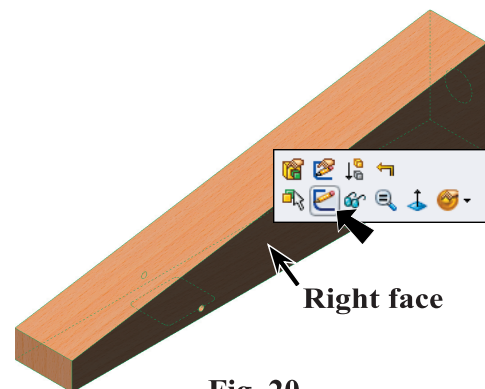

Fig. 20
Step 2. Click the **right face** and click **Sketch**  on the Content menu, **Fig. 20**.